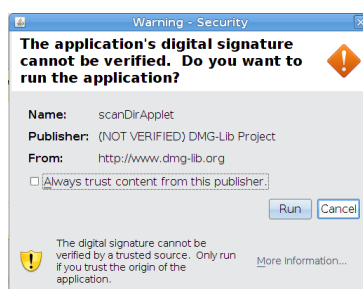

Figure 2 - Grant permissions to ProDB website
- The web browser will ask you if you allow a part of the ProDB website to receive extended permissions. These are necessary for the ProDB to create pre-defined folder structures on the hard disk of your local computer. Select **Run** (Figure 2). Note: You may also check the option *Always trust content from this publisher*. In this case the web browser will not ask for permissions each time you access the *Scan* tab.